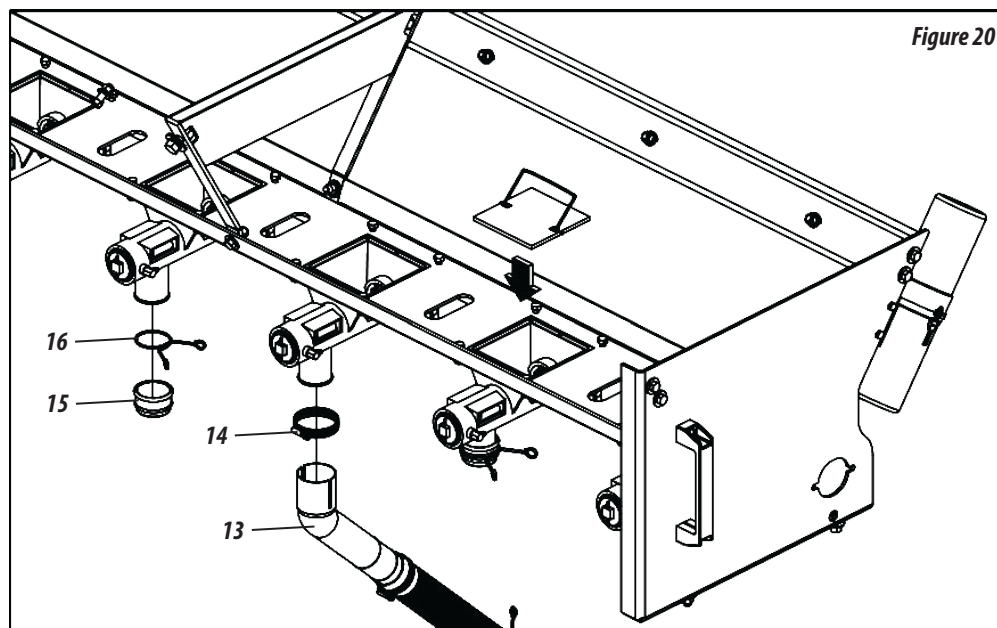

Figure 20
- 1- When removing the lines to adjust the new spacing, also remove their respective fertilizer conductive spouts (13) through the clip (14) and close the tank outlets, placing the plug (15) and locking with the clip (16).
- 2- Then close the tank entrances, placing the cover (17), **as shown in Figure 20.**